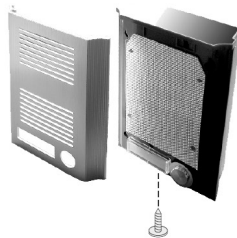

fig. 5
8. Unscrew the bottom fixing screw, and take off aluminum front panel from the main body of the outdoor unit (fig. 5).